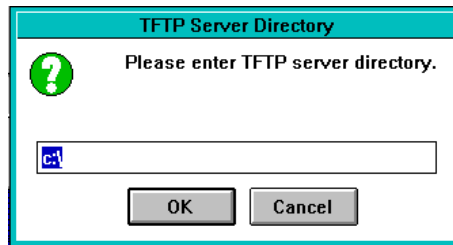

Figure 3-5 TFTP Server Directory Dialog Box
- 9 (IP Only) The TFTP Server Directory box appears (Figure 3-5) and requests the path of the TFTP server, which is used to upload and download AccessBuilder configuration and system files from and to the AccessBuilder server from a computer's disk file. If the TFTP server is on the same computer on which you are installing the TABM software, enter the path to the TFTP server now, then click the OK button. If the TFTP server is on a different system, or you do not plan on using the upload/download feature, click the Cancel button now.